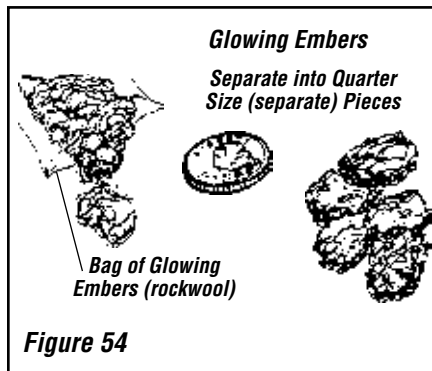
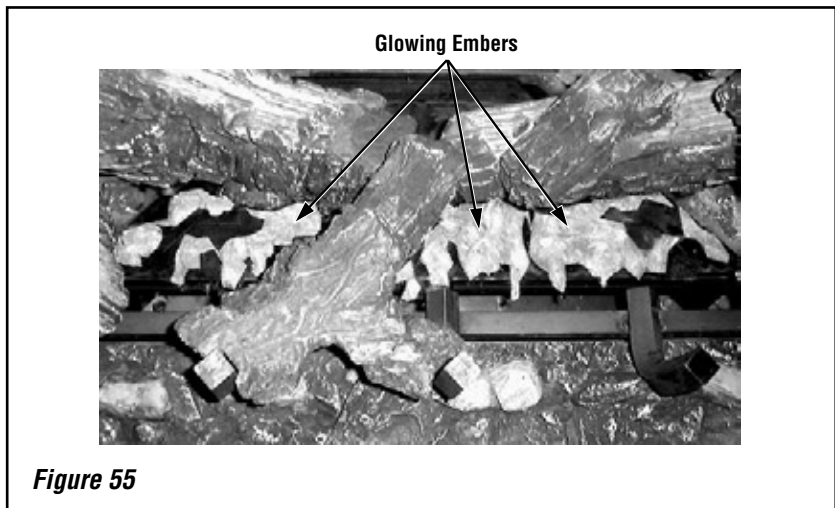

Figure 54
Figure 55
Step 3. Separate the Glowing Ember (Rockwool) into pieces about the size of a quarter (**Figure 54**). Keep the pieces fluffed up, not matted. Distribute these pieces over the front surface of the burner, as shown in **Figure 55**. Do not use more than is necessary. When properly positioned, the Glowing Embers will cover approximately 65% of the front burner and with no appreciable gaps or openings. Ensure that the main burner ports remain uncovered by the ember material.